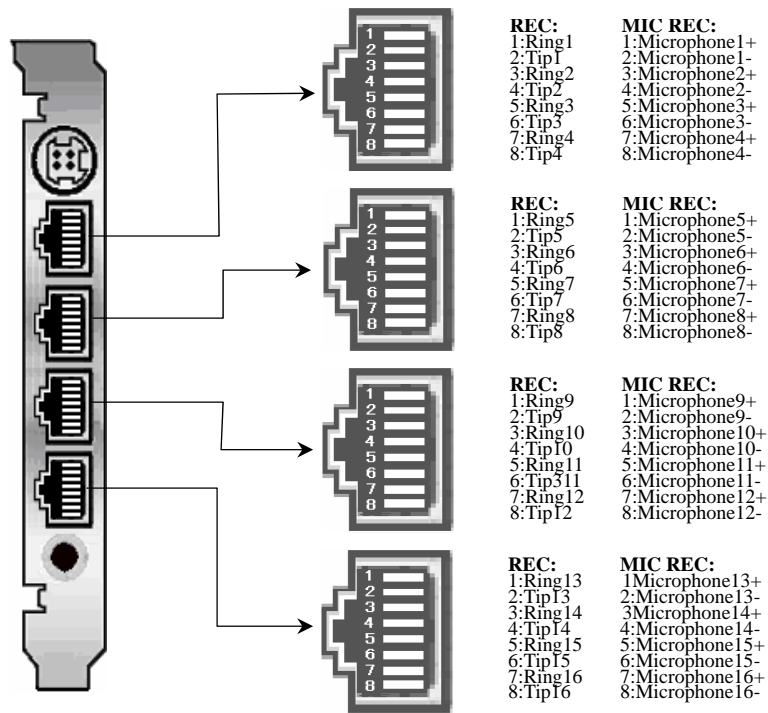

Figure 2-3 Left Side
Each RJ45 jack has 8 pins, which can be connected to four 2-pin RJ11 jacks via a 4-way hub. See Figure 2-3 for the physical layout of the jack.
- ① Connection to an RJ45 jack can be done through a 4-way hub and the matching relationship for the other three on-board RJ45 jacks and their corresponding pins and channel numbers may be deduced by analogy.
- ② 4-way hubs are available on purchase from our company or if you prefer to construct one by yourself, we suggest you follow Figure 2-3.